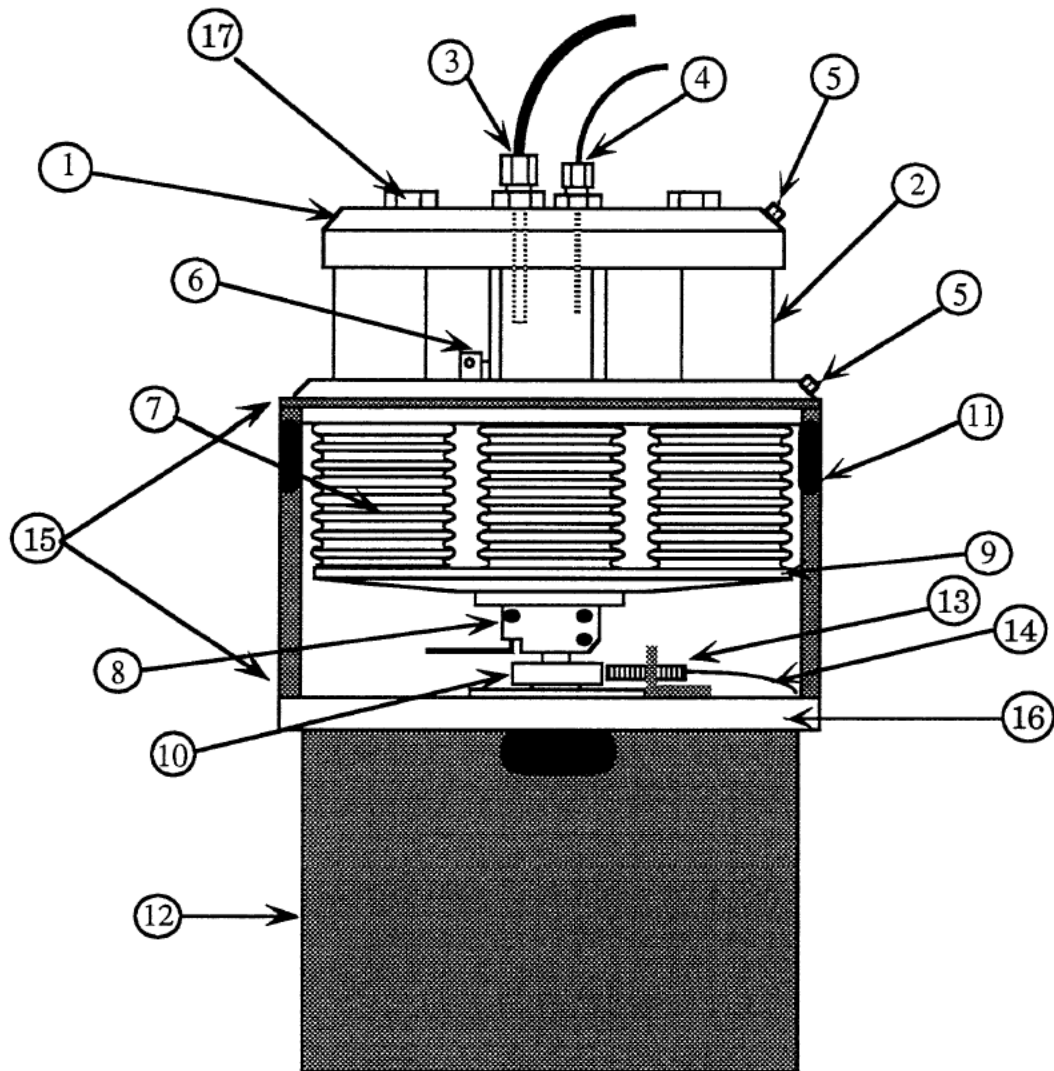

Figure 1B - Machine with Two Sectors Removed To Show Swashplate Tilt Coupling and Jack Screw Wrench
Once you have unpacked the M6 and positioned it and the capacitance tank as you want them, you can begin setting up the machine. See Figure 1B. Plug the motor power cord into the DC OUTPUT plug in the back of the controller. Then remove the front panel of the upper (bellows housing) cylinder (15). The sectors with the cutout handles are the side panels. These are attached with four 1/4"-20 screws. At the top there are two 1/4"-20 x 3/4" buttonhead cap screws which can be removed with a 5/32" hex wrench. At the bottom are two 1/4"-20 x 1" cap screws that are removed with a 3/16" hex wrench. Removing the front panel will allow you to access the bellows, coupler and proximity sensor. The proximity sensor, which sends signals to both the speed indicator and the IVO counter, is mounted on the motor plate pointing toward the rotating shaft. Pull the proximity sensor wire (14) out through the cutout handle in the nearest side panel.
A socket head set screw in the cut out step in the lower half of the tilt coupling is used to change the tilt angle of the swashplate (see Figure 1B). Loosen the three cap screws about 1/2 to 1 turn and turn the jack screw with the wrench provided to raise or lower the tilt angle. The tilt-drive amplitude is measured at the periphery of the swashplate. To measure the swashplate deflection, turn the coupling by hand and measure the min-max deflection for one revolution.